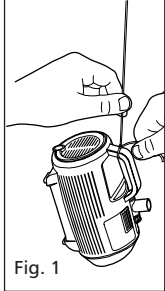

Fig. 1
- Do not use the supply cable to lift the pump, as this may cause damage. We recommend fitting a lifting cord to the handle eye on the top of the strainer cage when the pump is installed in deep water. See fig 1.